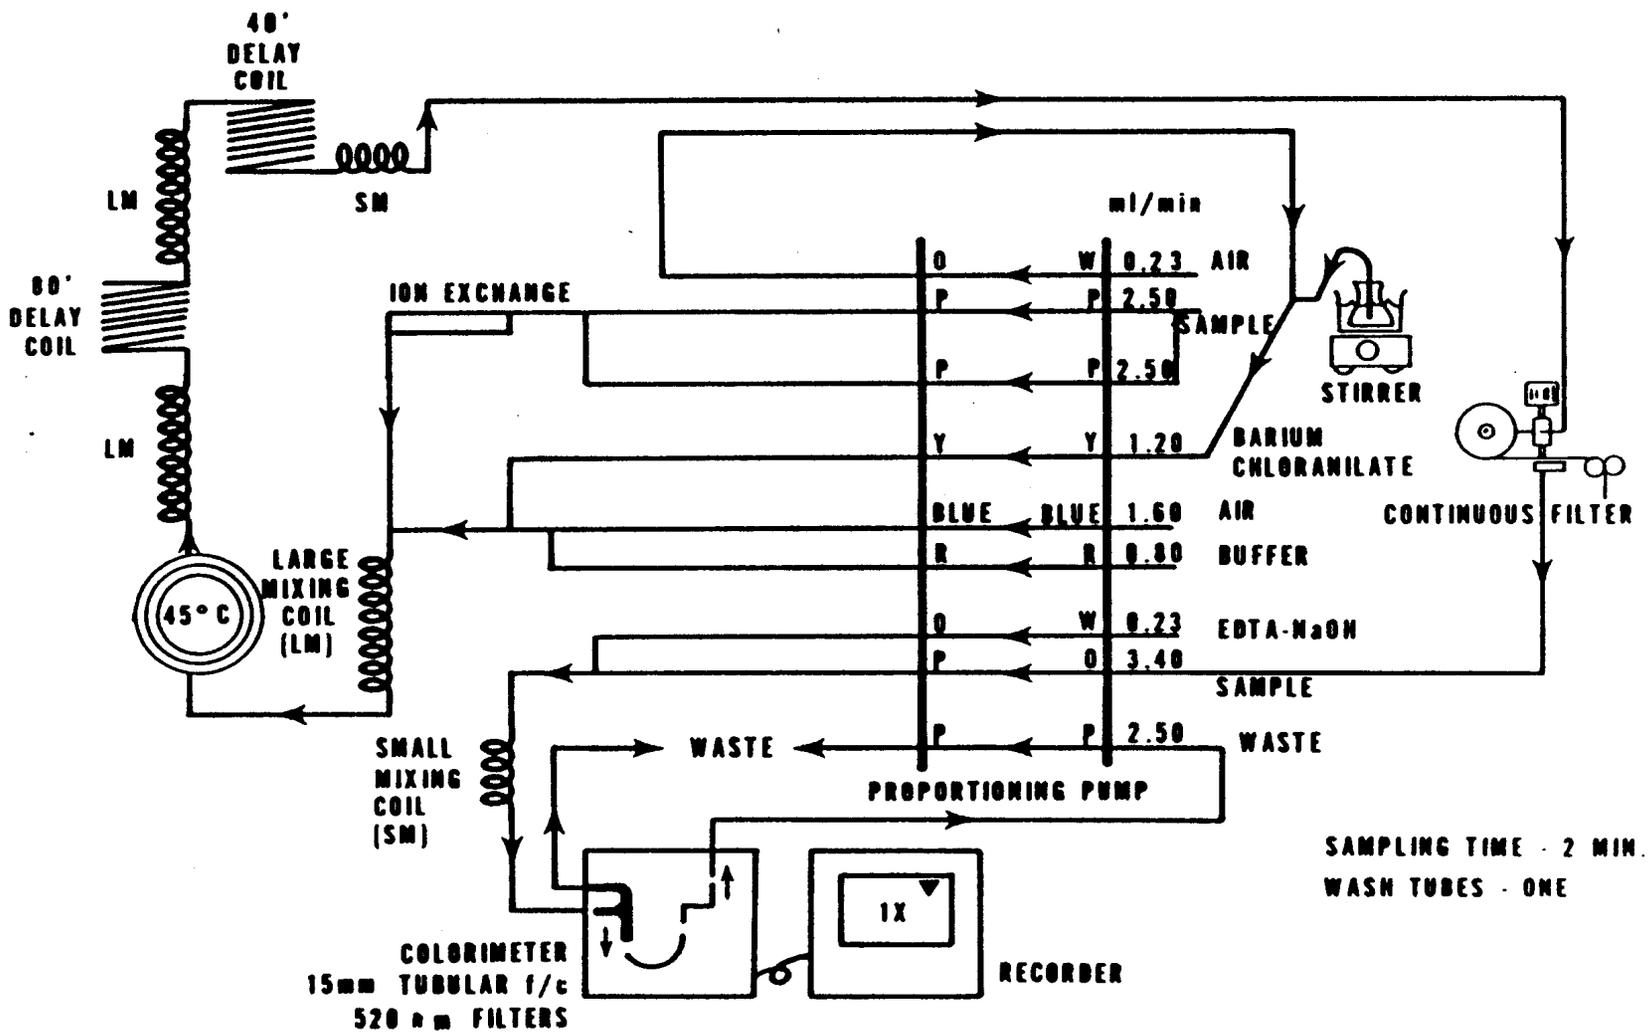

FIGURE 1 - SULFATE MANIFOLD AA-1
- 7.1 Set up manifold as shown in Figure 1. (Note that any precipitated Ba SO₄ and the unused barium chloranilate are removed by filtration. If any Ba SO₄ should come through the filter, it is complexed by the NaOH-EDTA reagent).